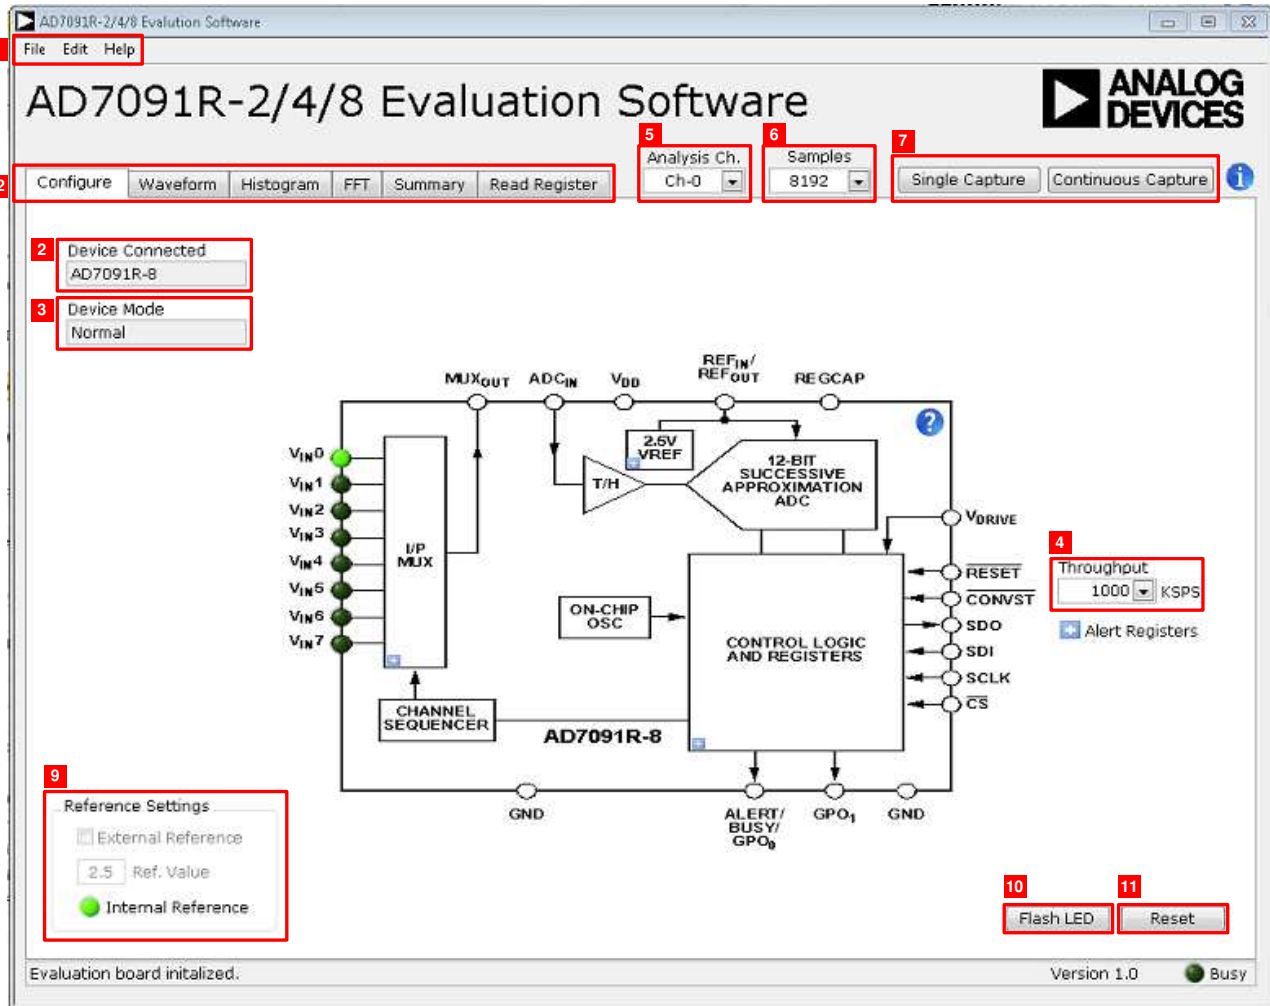

Figure 13. Evaluation Software Main Window
From the **Start** menu, select **Programs>Analog Devices>AD7091R-x**. The main window of the software then opens (see Figure 13).
The following tools allow user control of the different chart displays. When the software is launched, the main software window opens (see Figure 13).
The user software panel as shown in Figure 13 has the following features:
The menu bar, labeled 1 in Figure 13, consists of the **File**, **Edit**, and **Help** menus.
**Device Connected.** Labeled 2 in Figure 13, this indicates which model of the AD7091R-2/AD7091R-4/AD7091R-8 has been detected.
**Throughput.** Labeled 4 in Figure 13, this selects the sampling rate of the data acquisition.
**Single Capture.** Initiates the sampling and readback of the defined number of measurements. See Label 7 in Figure 13.
**Continuous Capture.** Performs a continuous capture from the ADC. Click a second time to stop sampling. See Label 7 in Figure 13.
**Reference Settings.** Indicates current reference setting (see Section 9 in Figure 13). If **External Reference** is selected, the user has the option to provide an off-board external reference. If this option is selected, the supplied reference value must be entered in **Ref. Value**.
**Flash LED.** Labeled 10 in Figure 13, this causes the orange LED1A on the SDP board to flash, which can be a useful debugging tool.
**Reset.** Labeled 11 in Figure 13, this resets the ADC and places the default configuration in the control register. Click a second time to release reset state.
There are four tabs that display the conversion data in different formats: **Waveform**, **Histogram**, **FFT**, and **Summary**. See Label 12 in Figure 13.